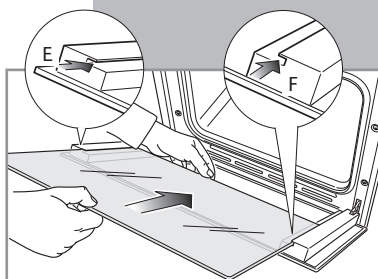
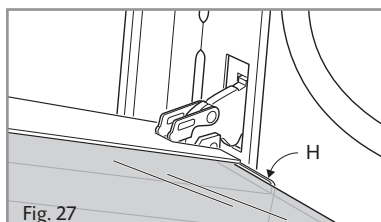

Fig. 26
Fig. 27
- Insert the pane in the left **E** and right **F** slide guides (fig. 26), and gently slide it to the retainers **H** (fig. 27).